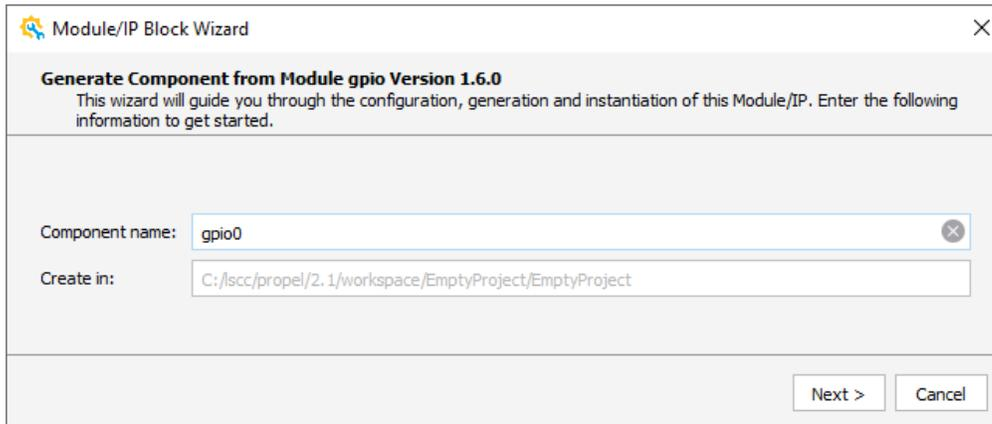

Figure 2.15. Module/IP Block Wizard – Generate Component from Module gpio Version 1.6.0
- From the **IP on Local** tab, select a desired IP, such as GPIO. Double-click the IP module or drag and drop the IP module to the **Schematic** view. A Module/IP Block wizard pops up (Figure 2.15).